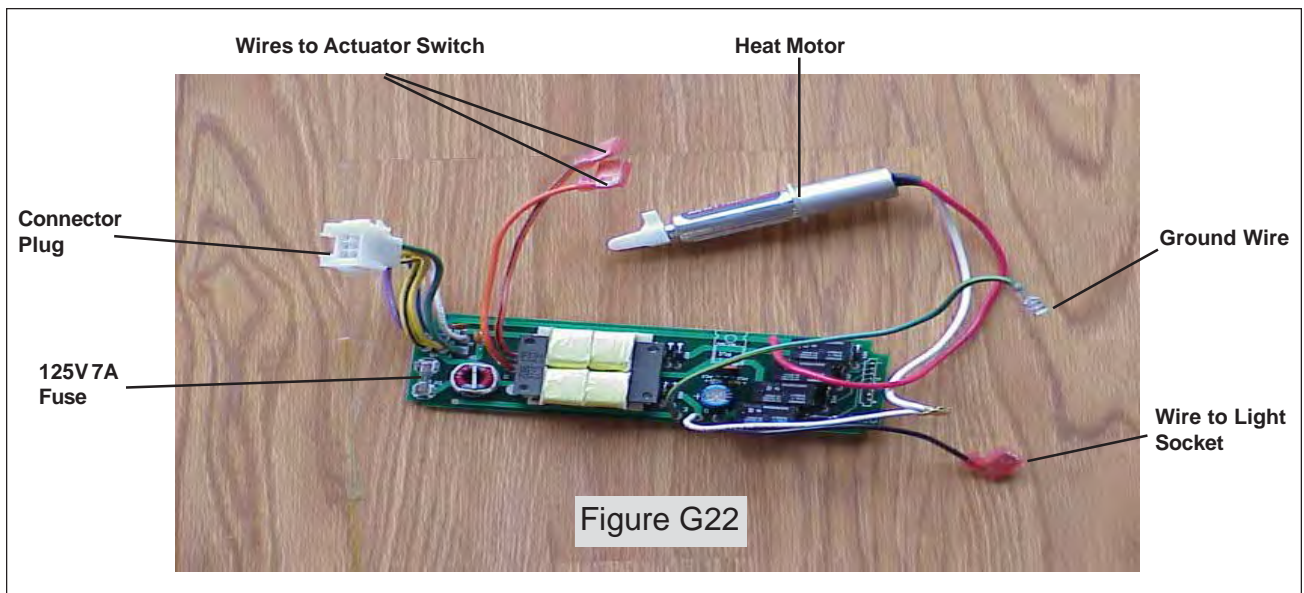

Figure G22
1. Remove two (2) bottom screws on front of cover plate.
**NOTE:** The relay board will come with the heat motor, ground wire, and the electrical connector attached. (See Figure G22)